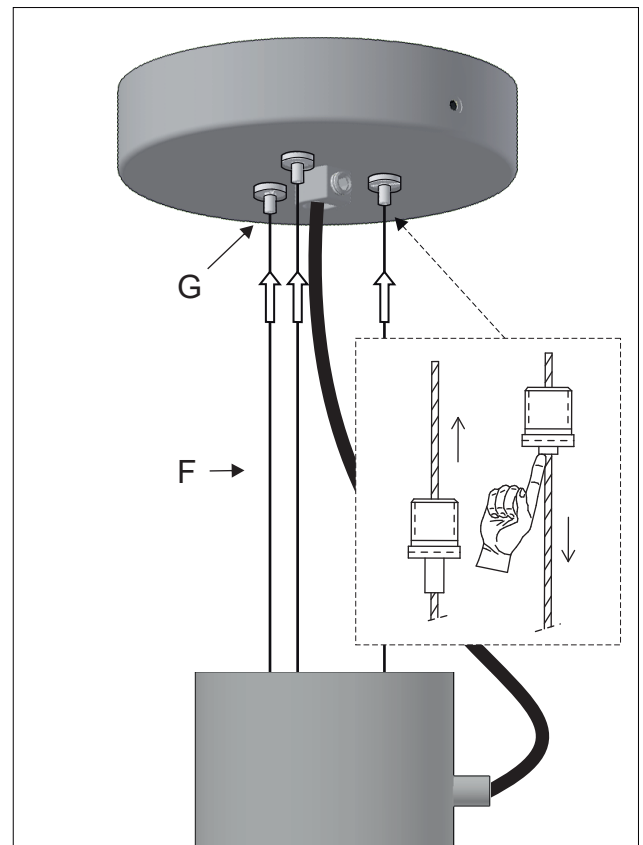

Figure 4
4 - Run the 3 steel cables (F) through the gripper supports (G) and adjust the cable to the desired length. Cut the excess steel cable. Figure 4